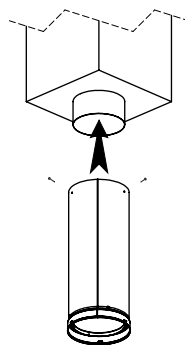

Figure 4
• **Built In Flue Extension (Figure 4)**